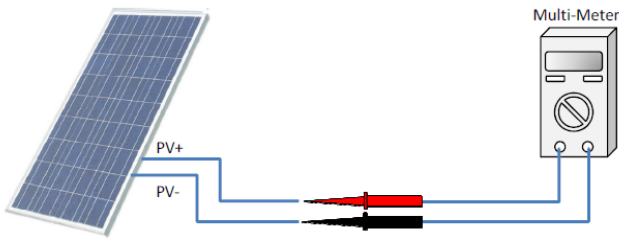

Figure 4-28 Polarity Check
- ☐ Ensure correct polarity of the PV Strings before terminating the DC source circuits. Referring to Figure 4-28, the wiring from the PV string pairs must be checked according to the following steps: